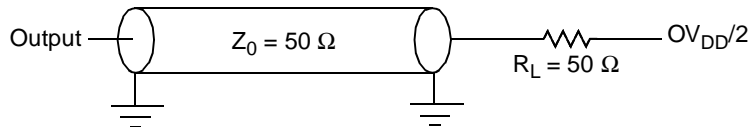

Figure 26. AC Test Load for the JTAG Interface
- All outputs are measured from the midpoint voltage of the falling/rising edge of t_{TCLK} to the midpoint of the signal in question. The output timings are measured at the pins. All output timings assume a purely resistive 50 Ω load (see Figure 26). Time-of-flight delays must be added for trace lengths, vias, and connectors in the system.
- The symbols for timing specifications follow the pattern of $t_{(first\ two\ letters\ of\ functional\ block)(signal)(state)(reference)(state)}$ for inputs and $t_{(first\ two\ letters\ of\ functional\ block)(reference)(state)(signal)(state)}$ for outputs. For example, t_{JTDVXH} symbolizes JTAG device timing (JT) with respect to the time data input signals (D) reaching the valid state (V) relative to the t_{JTG} clock reference (K) going to the high (H) state or setup time. Also, t_{JTDVXH} symbolizes JTAG timing (JT) with respect to the time data input signals (D) went invalid (X) relative to the t_{JTG} clock reference (K) going to the high (H) state. In general, the clock reference symbol is based on three letters representing the clock of a particular function. For rise and fall times, the latter convention is used with the appropriate letter: R (rise) or F (fall).
Figure 26 provides the AC test load for TDO and the boundary-scan outputs of the MPC8347E.